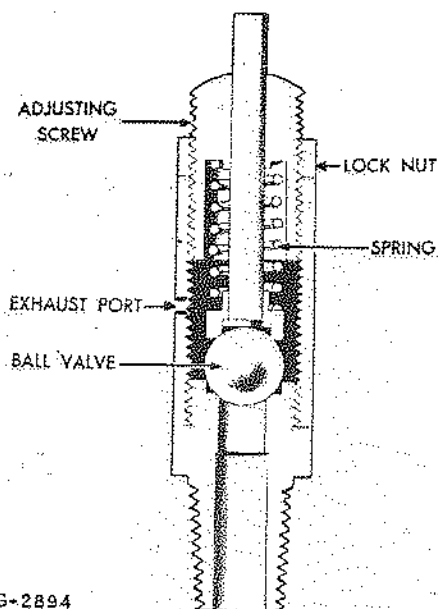

Fig. 2 - Sectional View of Safety Valve
2. The safety valve consists of a spring loaded ball check valve which is set to "blow-off" at 150 pounds air pressure (Fig. 2).